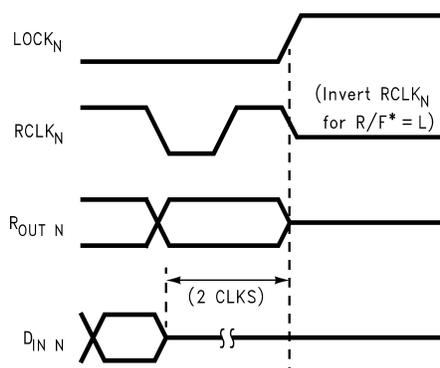

Figure 6. Unlock
- (1) The routing of the Din inputs to the Deserializers and to the CHTST outputs are dependent on the states of SEL [0:2].
- (2) Rout n[0:9] and RCLK [0:5] are Tri-Stated when LOCKn[0:5] is High.
- (3) LOCK Active indicates that the LOCK output will reflect the state of it's respective Deserializer with regard to the selected data stream.
- (4) RCLK Active indicates that the RCLK will be running if the Deserializer is locked. The timing of RCLK [0:5] with respect to Rout [0:5][0:9] is determined by RCLK\_R/F Figure 6